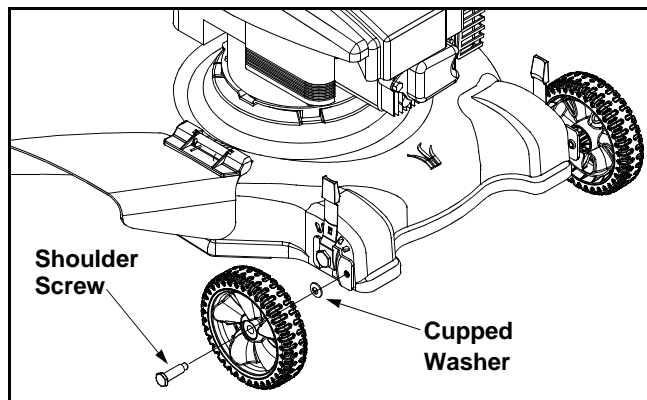

Figure 5
- Insert shoulder screw through front wheel. Place cupped washer on the shoulder screw (crowned side against the wheel). Insert shoulder screw into the pivot arm. See Figure 5.